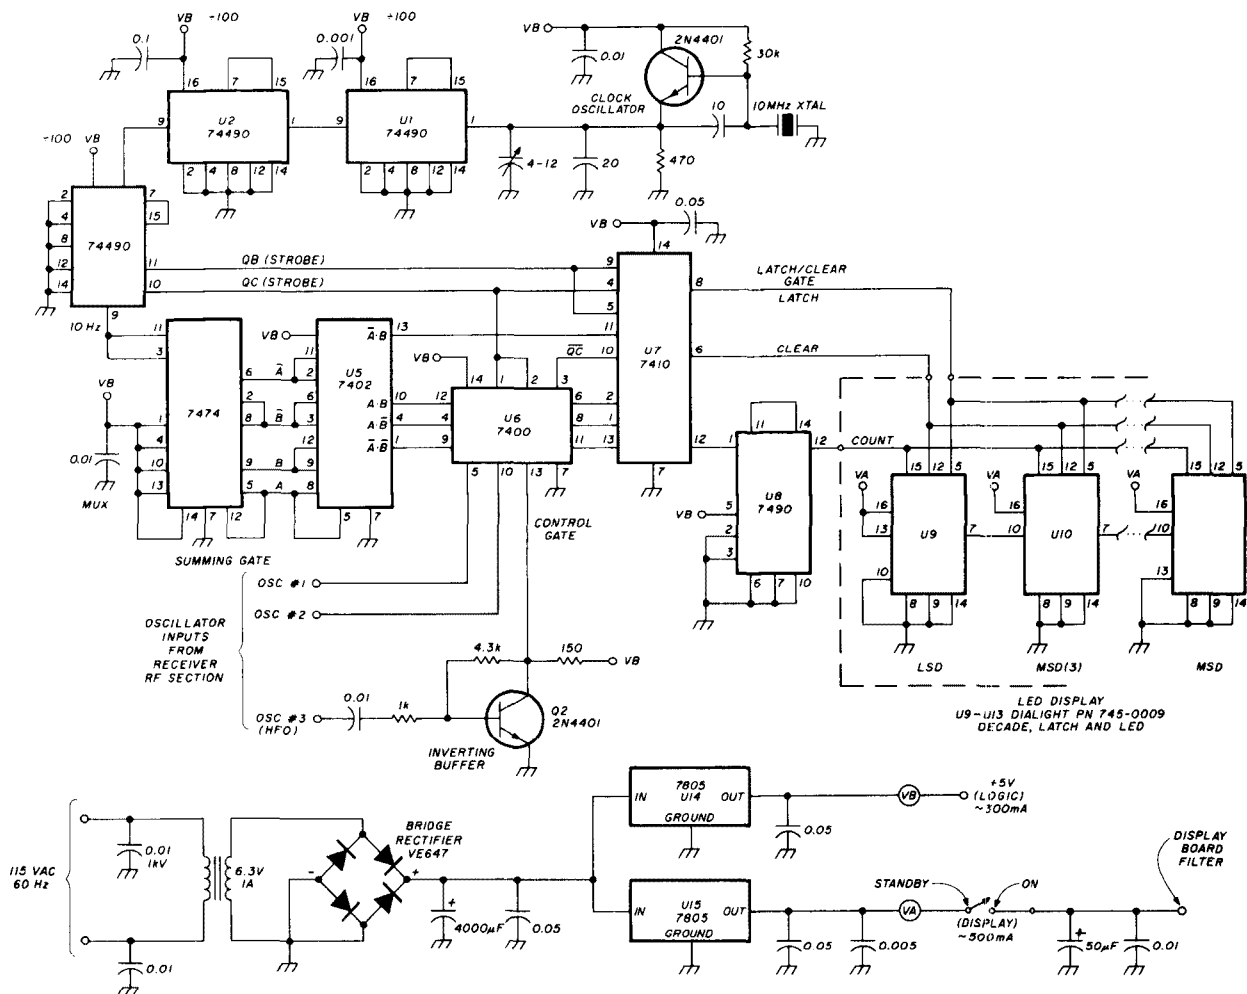

fig. 10. Digital-counter and display schematic.
Digital counter. Fig. 10 is the schematic of the digital counter. The clock from which the entire accuracy of our system depends is derived from the 10-MHz crystal oscillator, Q1, and multi-decade divided
1. Apply power to the gate control board and monitor the frequency of the quiescent states of the logic circuits, as shown in fig. 10. It may not be possible to verify the various timing pulses relative to each other